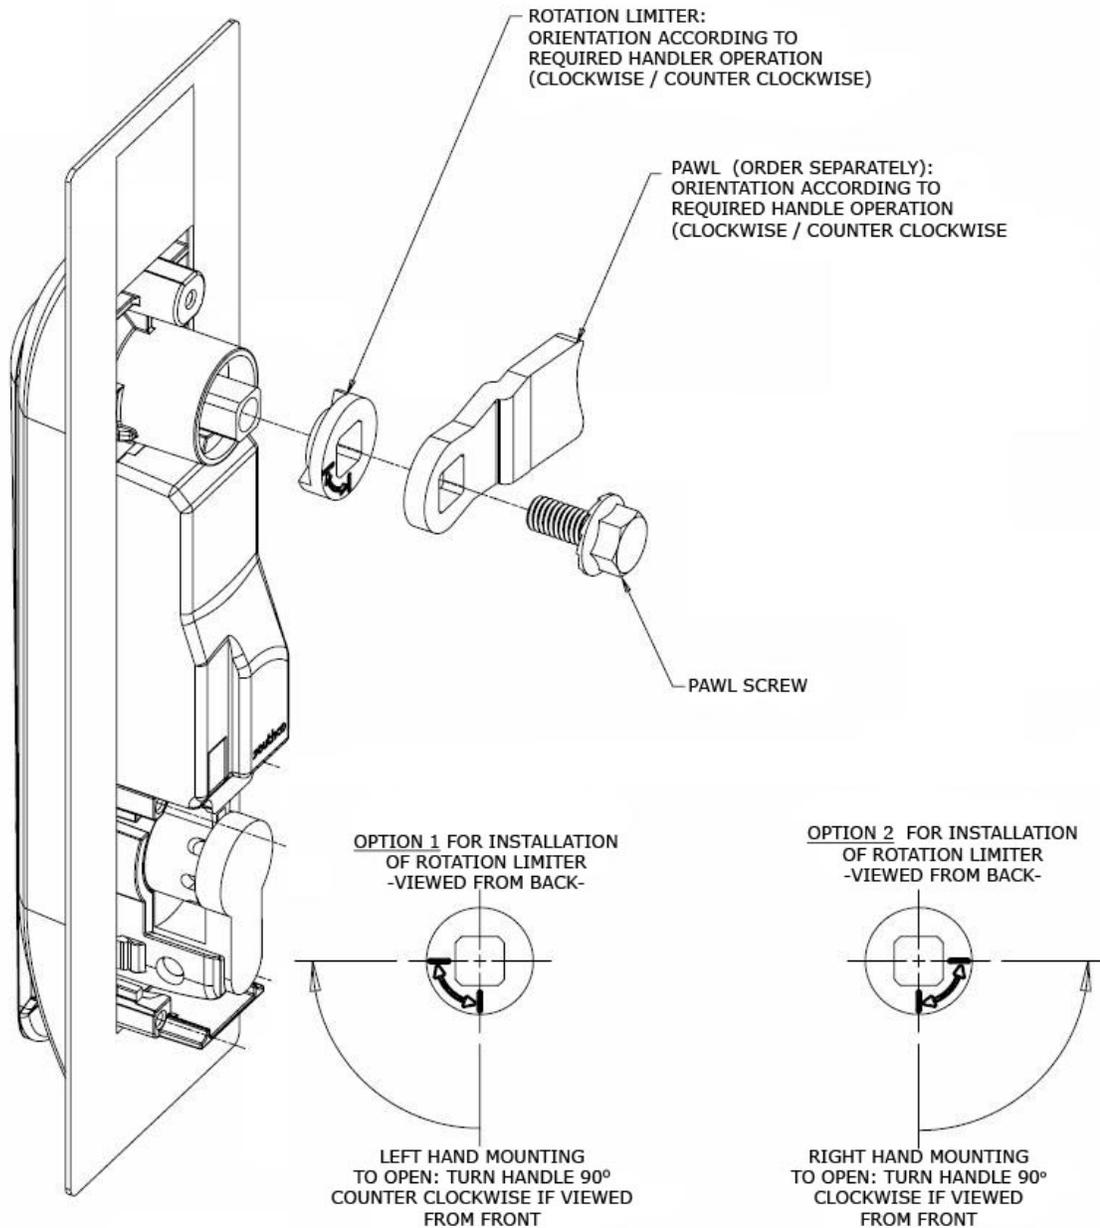

Figure 7b
- The pawl is installed as shown in Figure 7b. Pay particular attention to the Rotation Limiter. This is installed as shown depending on whether you have a right or left hand opening door.